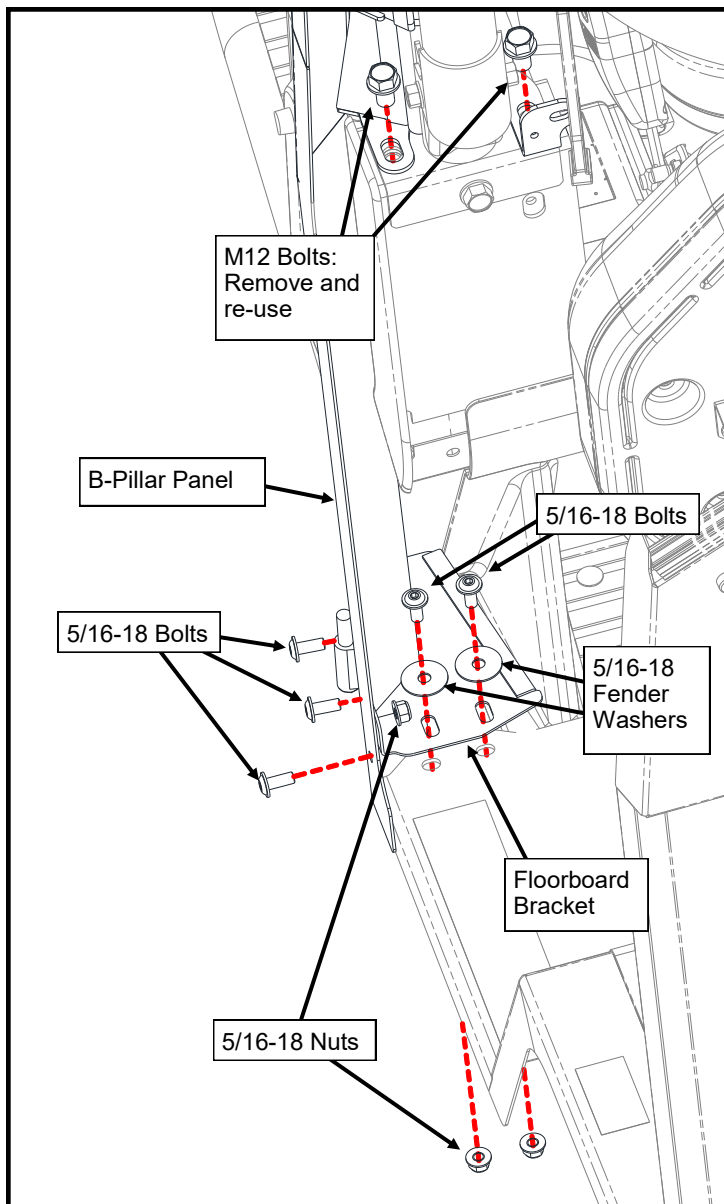

Figure 6.1: B-Pillar center and lower bolts
- 6.1 For each side, remove and retain both M12 bolts at the base of the center, side pillar of the ROPS (see Figure 6.1)
- 6.5 Install a floorboard bracket at the corner above the floorboard and inside the B-pillar (see Figure 6.1). Attach the bracket to the B-pillar with (3) 5/16-18 X 3/4" flanged button head bolts and nuts inside. Push the B-pillar against the floorboard to remove any gap and secure the bracket to the floorboard with (2) 5/16-18 X 3/4" flanged button head bolts and nuts underneath. Tighten snug but do not apply final torque.